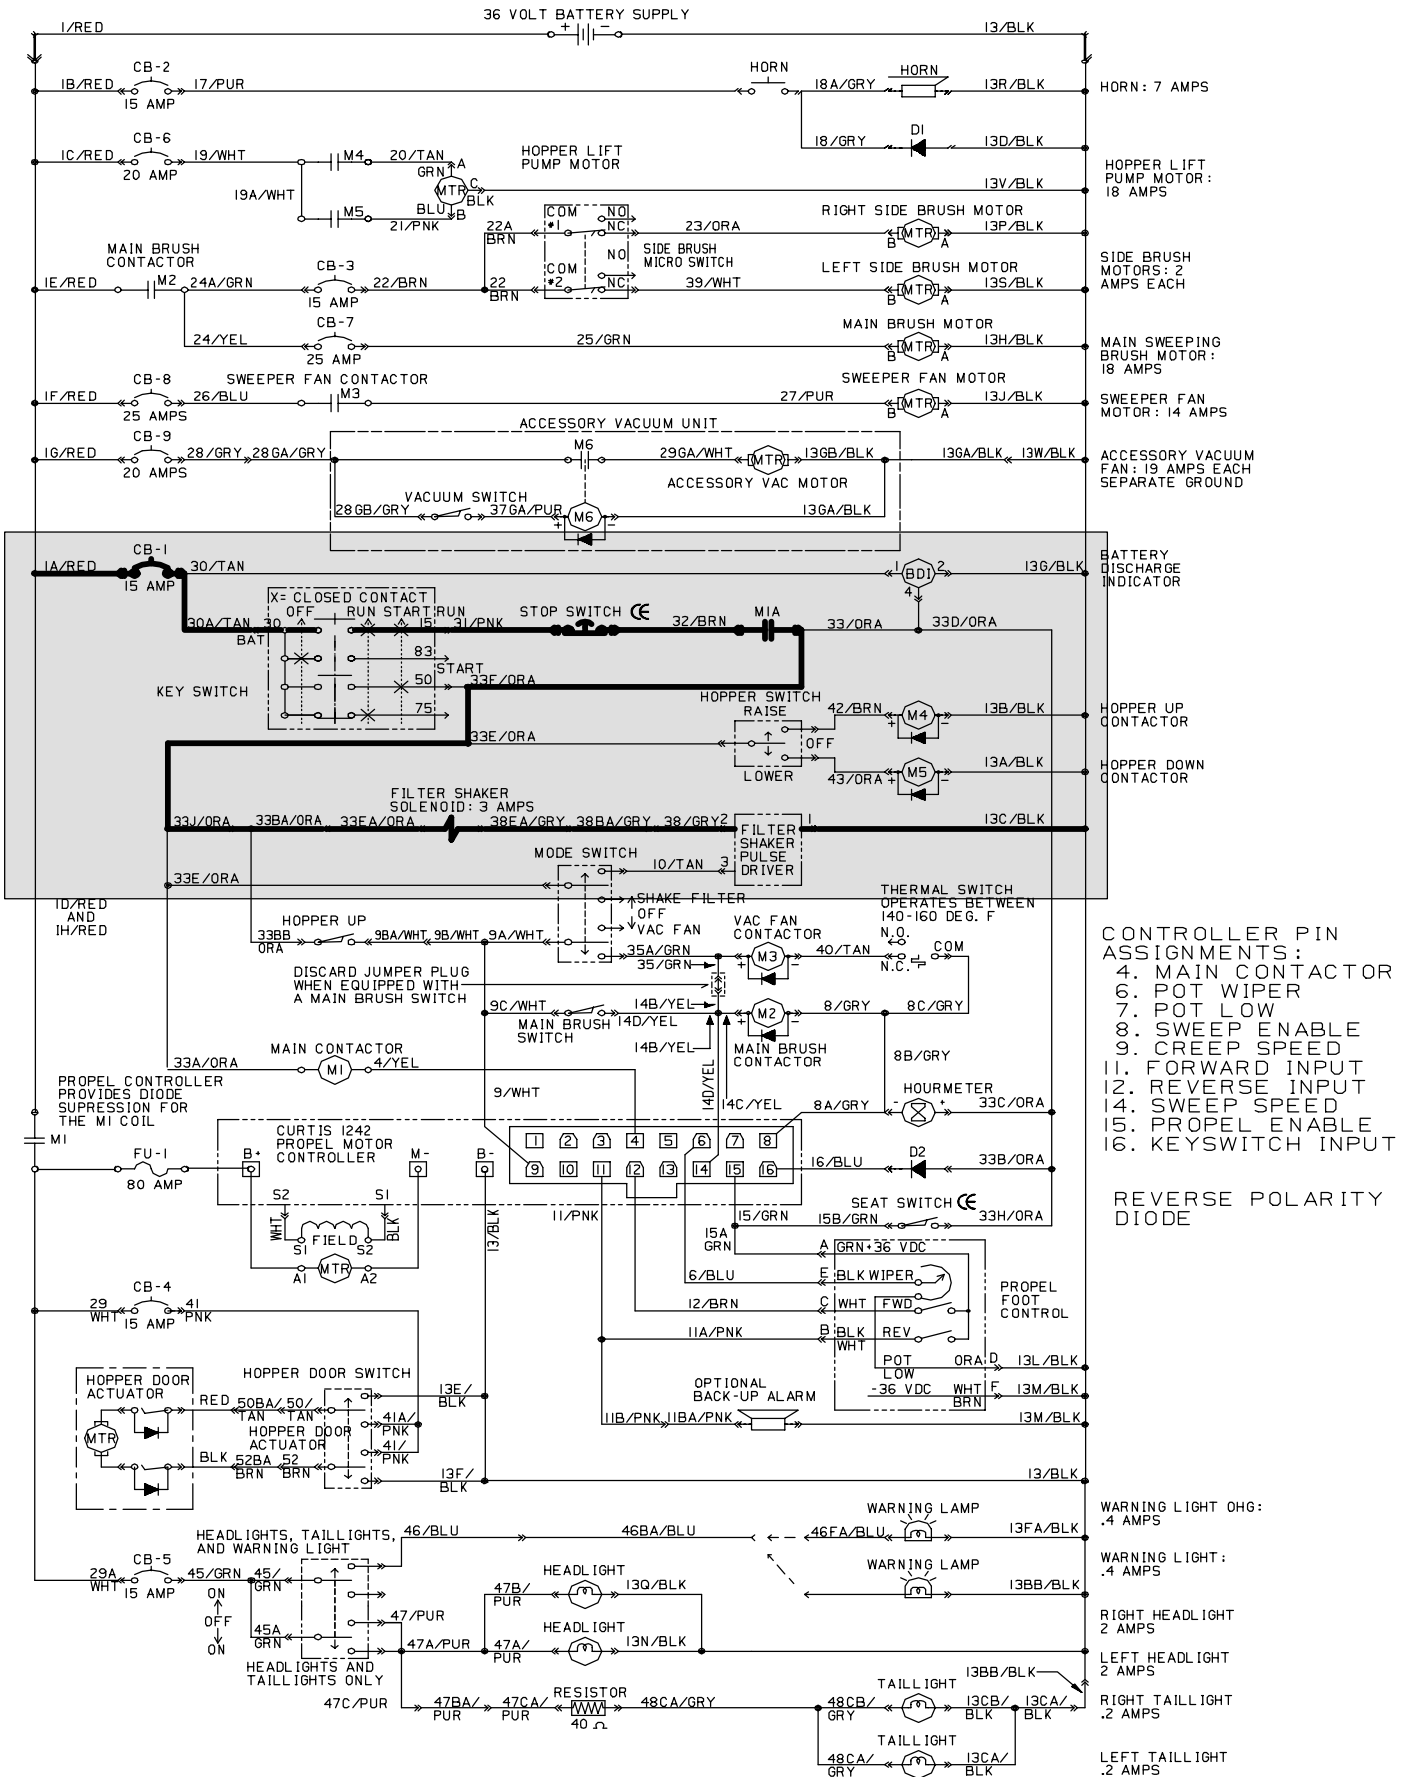

Fig. 13
2. Power circuit. (see fig. 13)